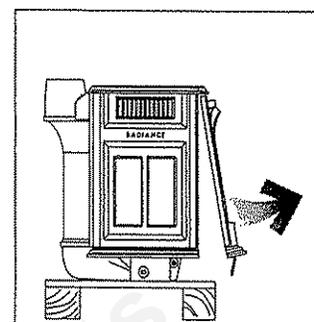

Figure 2.
Step 3. Lift the Front Panel from the bottom and pull it up and forward away from the stove. Fig. 2.